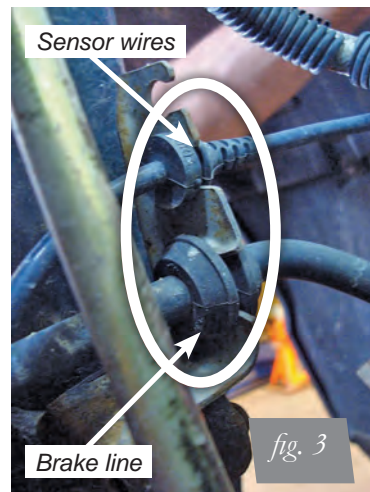

fig. 3
1. Detach the brake line and sensor wires from the supporting bracket (fig. 3).